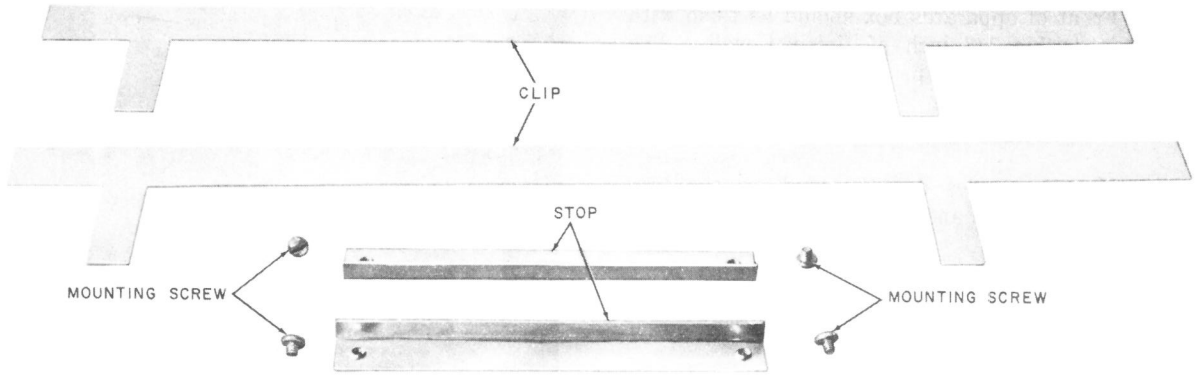

Fig. 13—D-179941 Kit of Parts
(3) Parts, Kit of, D-179941. D-179941 Kit of Parts (Fig. 13, 14, 15 and 16) is used to mount the 113E or 114A apparatus box in an existing wall.
inches high cut into an existing wall. A D-179941 Kit of Parts (Fig. 13) is required.